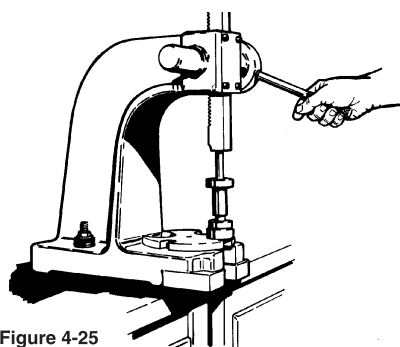

Figure 4-25
- Using an arbor press, install the bearings on the shaft prior to installing the shaft into the pedestal. A steel "donut" with the proper inside diameter and outside diameter, refer to Chart 1, should be used between the arbor face plate and the lower bearing to insure proper installation, and to prevent bearing damage. The bearings must seat against the shoulder for proper alignment. Refer to Figure 4-25.